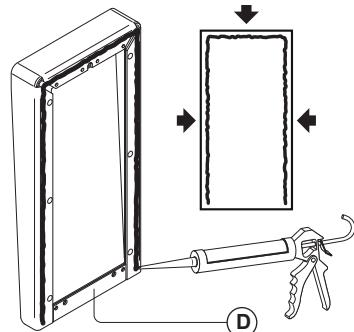
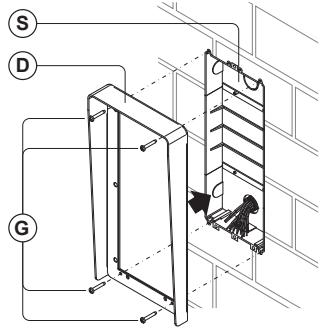

Fig. 3
Fig. 4
4. A rainshield **(D)** (Fig. 3 & 4) can be mounted using the fixing screws **(G)** (Fig. 4) to conceal possible wall finishing defects and protect against rain;
**⚠ In order to prevent water ingress we highly recommend using a silicon sealant between the wall and the back box and between the wall and the rainshield **(D)** (Fig.3);**